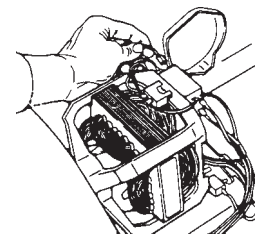

Fig. 4-24
5. Disconnect motor wiring harness. (Fig. 4-24) Remove idler pulley assembly and broken belt switch and place on new motor.